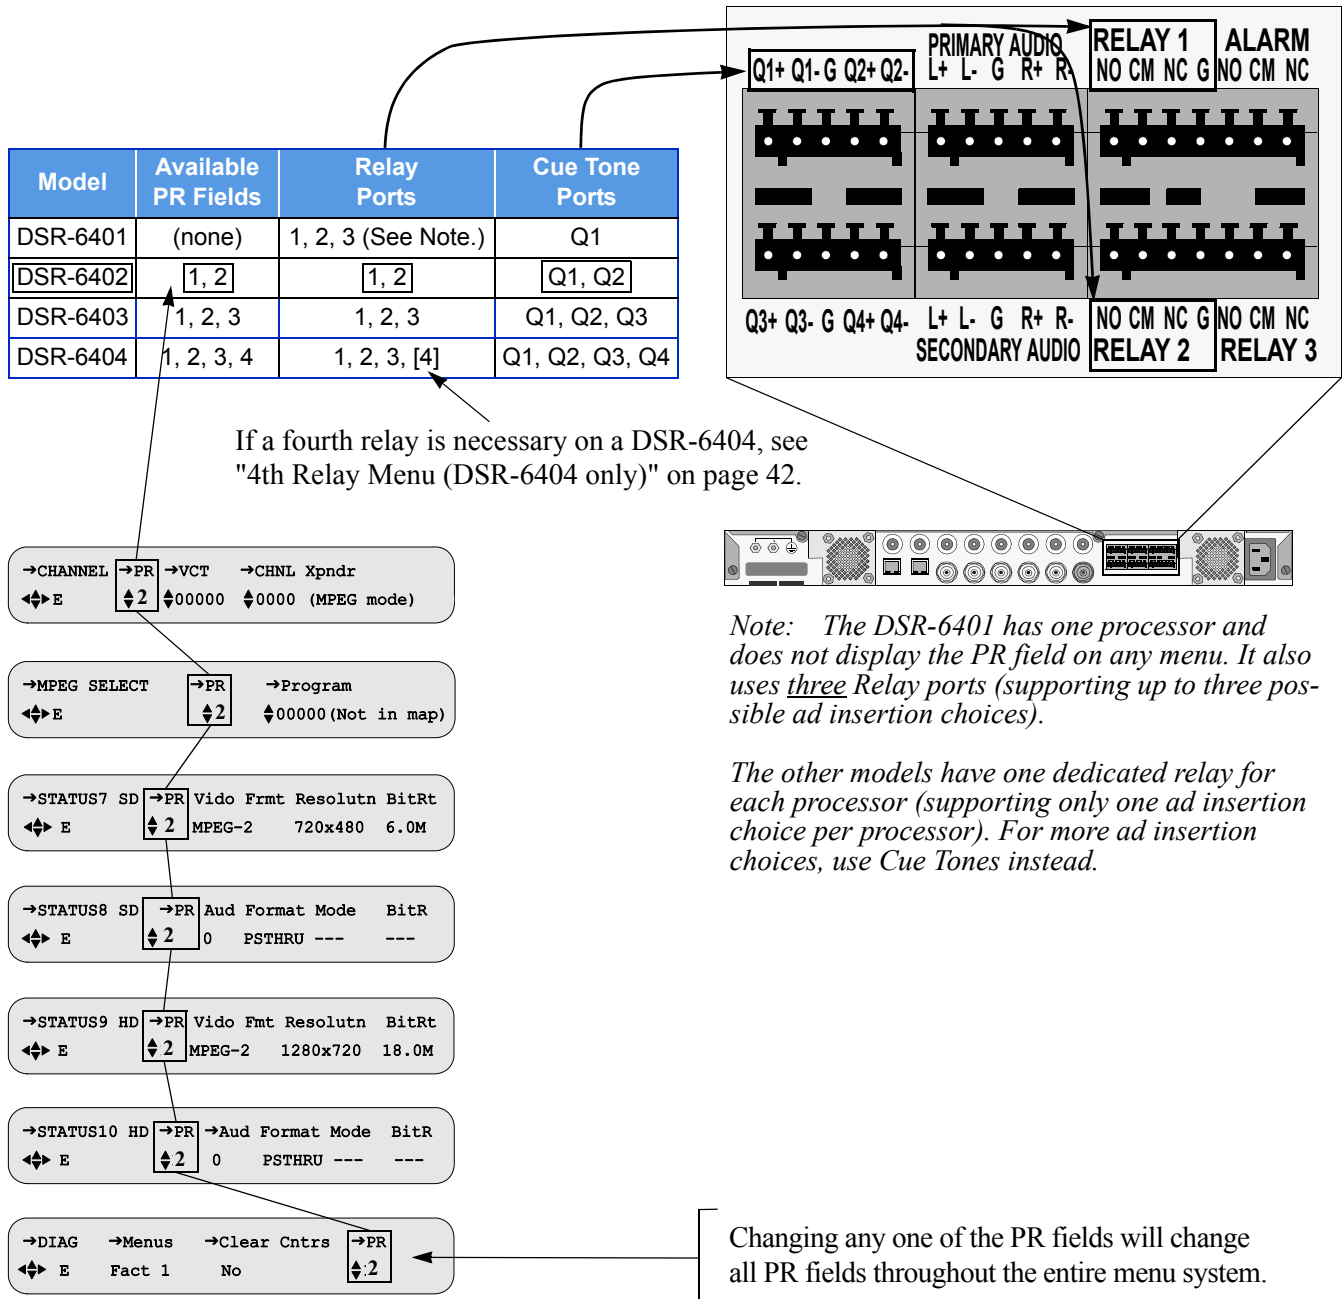

Figure 1-2: Processor / Back Panel Associations
Figure 1-2 shows how Processor numbers (PR) coincide with the Cue Tone ports and Relay ports on the back panel. For example, a DSR-6402 has two processors. The two services use cue tones Q1 (for Processor 1) and Q2 (for Processor 2). To execute Ad insertions, the two processors also use Relay port 1 (for Processor 1) and Relay port 2 port (for Processor 2). Figure 1-2 also shows how all PR fields are linked within the menu system.